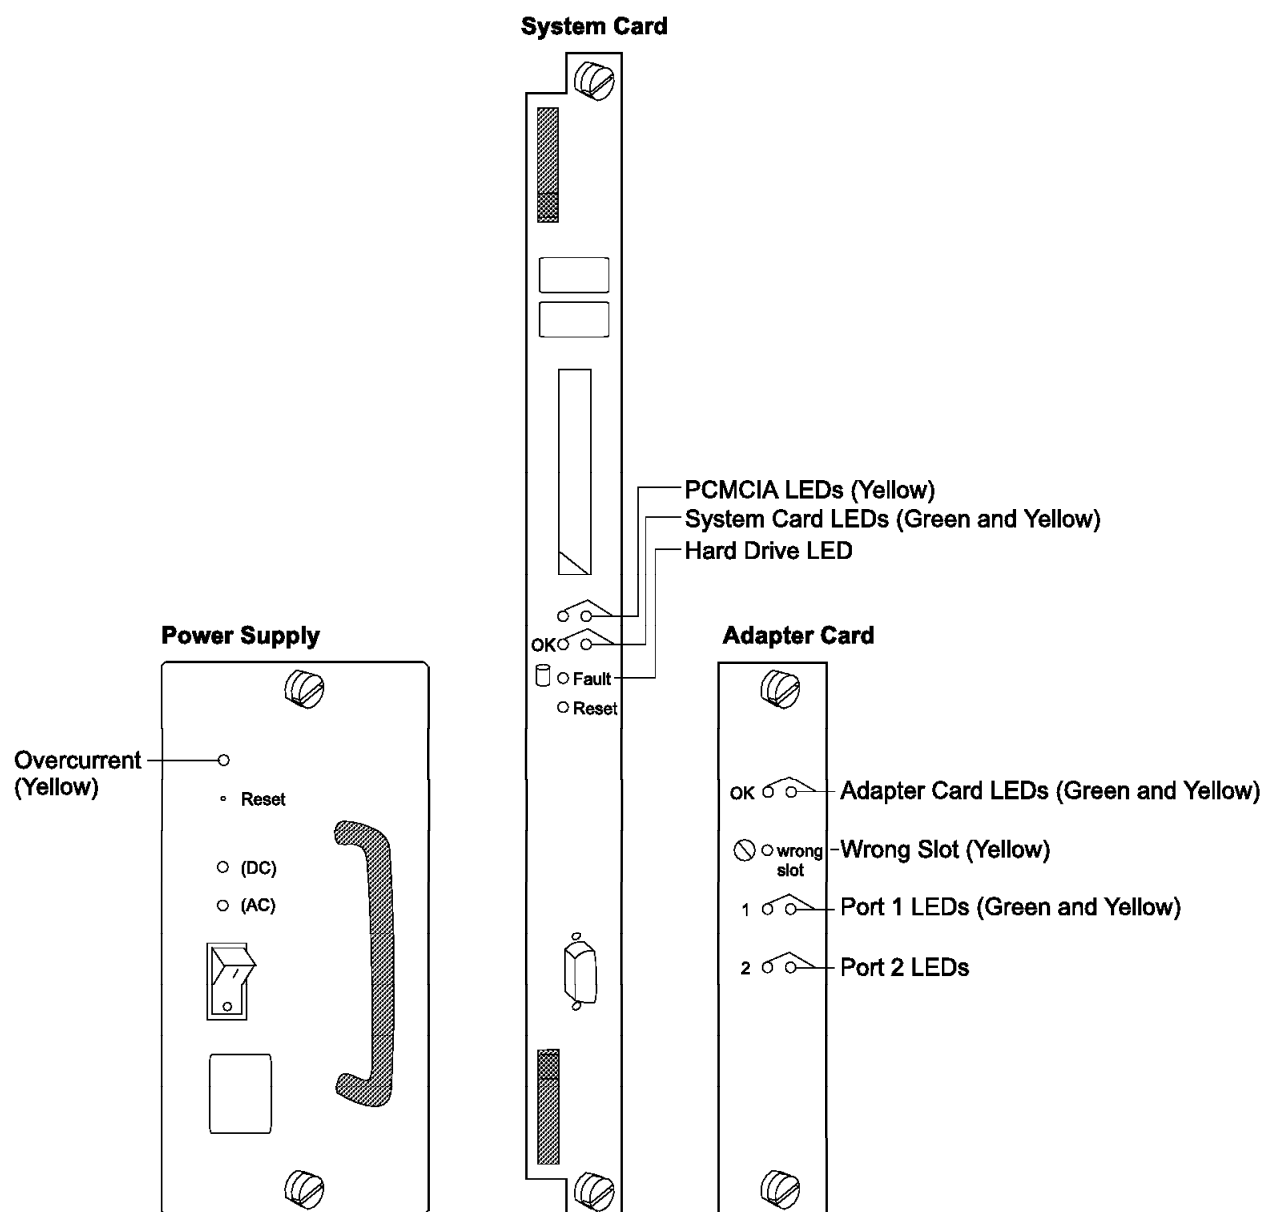

Figure 1. Power Supply, System Card, and Adapter Card LEDs
- ___ 4. Power ON; Then verify the LEDs (Refer to Figure 1 and to page 8 for LEDs status meaning).